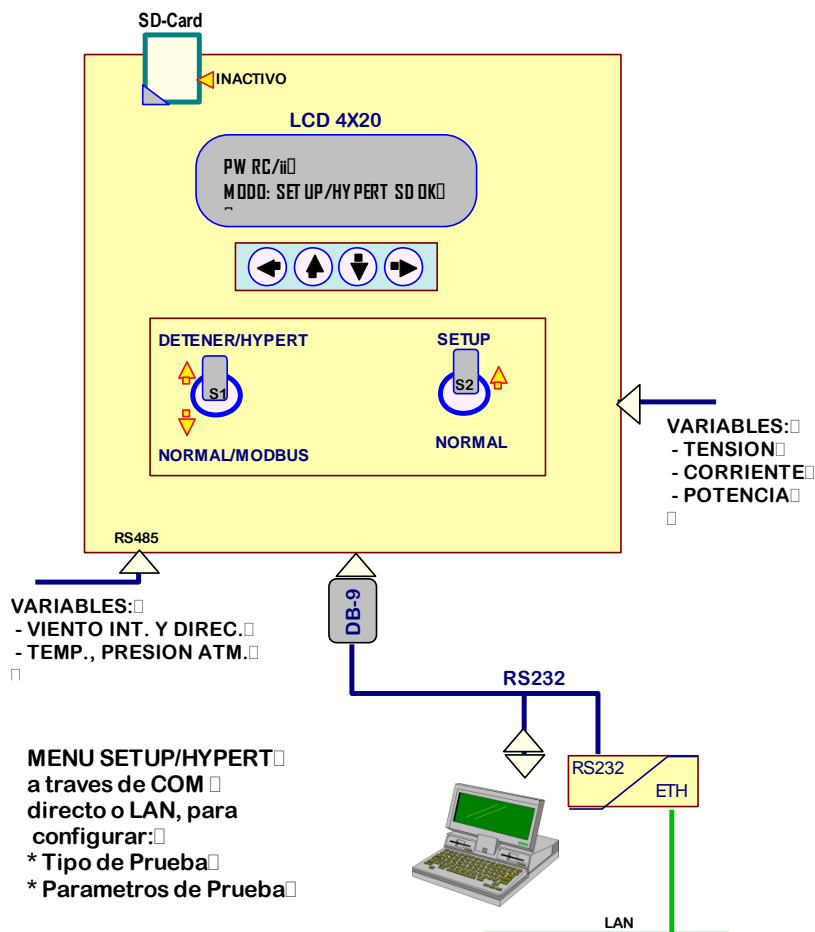

Figure 11 – PWRC2 from Setup/Hyperterminal Mode, from the user point of view.
*VI.a – Configuration in Hyperterminal:* The operations for setting up the test are described below, as mentioned in V.1.c). The front panel keys S2,S1 have the functions S2 (right)-> Setup Mode or Normal Mode, and S1 (left)-> Stopped Test or Normal Test. If S2 is “up” in Setup, then S1 “up” implements the classic Hyperterminal menu. This is the initialization position indicated in Figure 11.